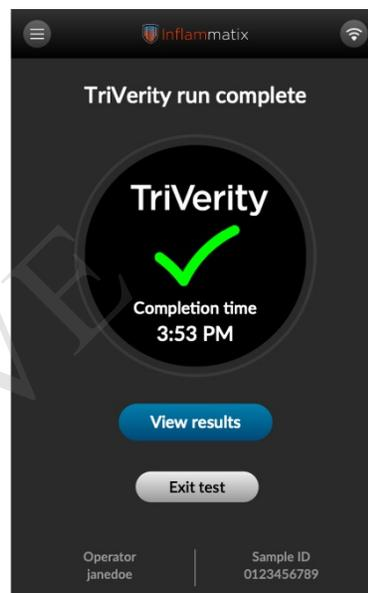

Figure 11
- B. Press the back arrow button in the upper-left corner to return to the Test Complete screen then press the EXIT TEST button (as shown in Figure 11).